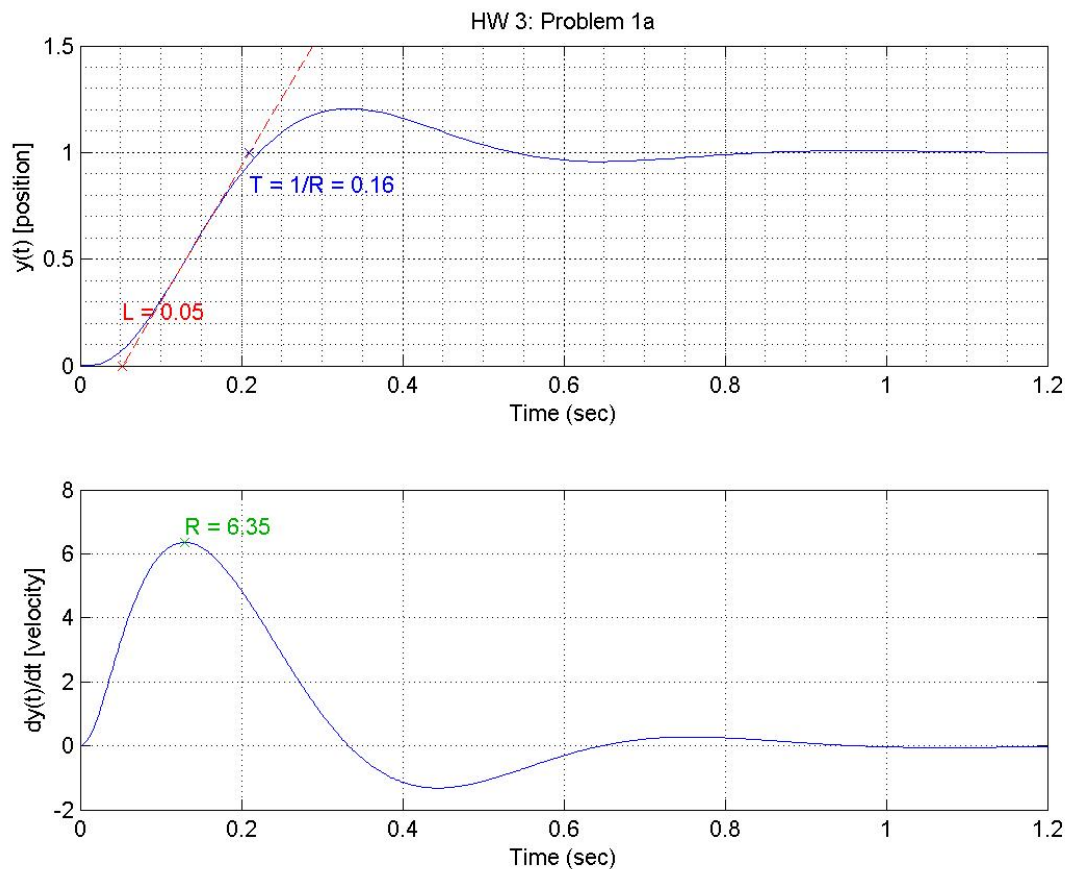

Figure 3.1a – Open-loop system step response. Position (top) and velocity (bottom) are both shown.
Ziegler-Nichols first method. This method simply requires estimating two values from a unit step response for the open-loop system. To do so, we first draw a tangent line at the inflection point in the S-shaped unit step response for the open-loop system, as shown by the dashed line in Figure 3.1a. Note that the inflection point is the location with the peak slope (i.e., highest velocity). Next, estimate the following time parameters: 1) The location, “L”, in which a tangent line drawn at the inflection point intersects the time axis. 2) The time between the intersection of
the tangent line with $y=0$ and with $y=1$, which we will call “T”. Note also that $T=1/R$ (with units adjusted appropriately), where R is the peak velocity (i.e., the velocity at the inflection point). Once L and T have been estimated (this has been done for you in Figure 3.1a...), the suggested gains for the PID controller are then:
a) For part a, L and T are clearly labeled in Figure 3.1a. For simulation purposes, assume that the open loop plant for Figure 3.1a is given by the following transfer function: